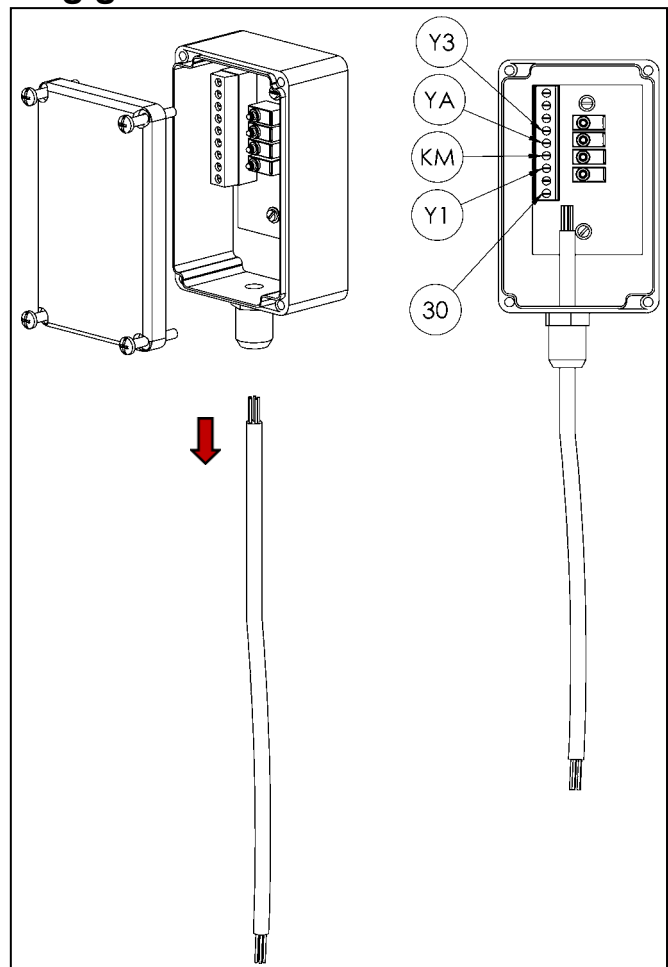

Figure 37
- Disconnect the service switch box from the cable by loosening the screw terminals in the housing (see Fig. 37).
- Reconnect the service switch to the routed cable as shown in Fig. 37.